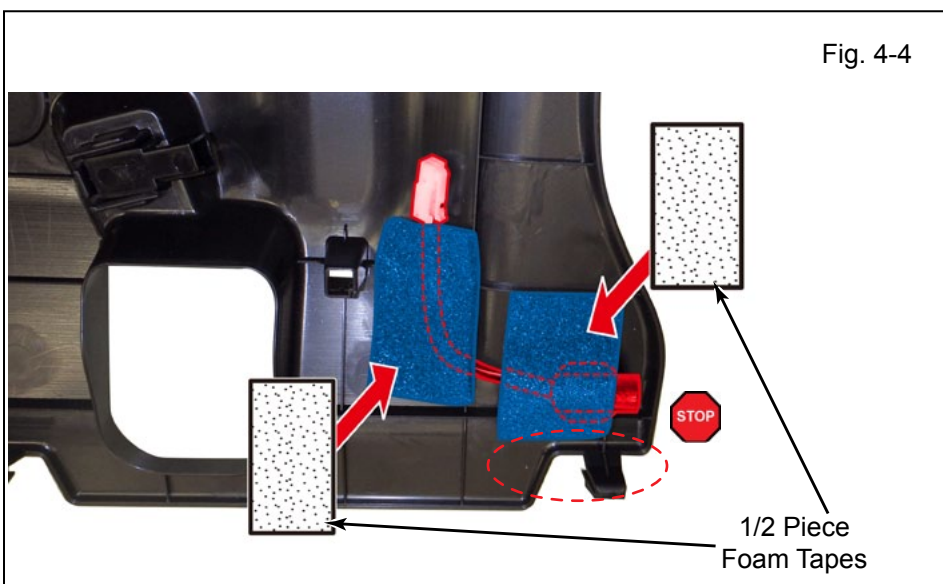

Fig. 4-4
- e. Apply both of the 1/2 Foam Tapes to the GBS Microphone as shown. (Fig. 4-4)
**NOTE:** Do not cover the Microphone opening with the Foam Tape. (Fig. 4-4)
**NOTE:** Do not cover the Clip with the Foam Tape. (Fig. 4-4)